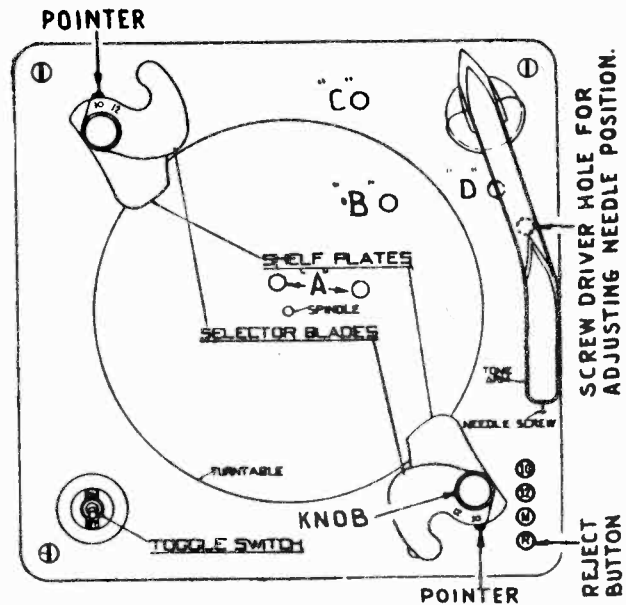

FIG. 1 SHOWS SELECTOR BLADES IN POSITION FOR 10-INCH RECORDS.
To set for record size. (1) Clasp one of the posts just underneath the shelf plate, with thumb and finger of left hand. With right hand, lift knob and turn selector plate until the figure 10 or 12 (whichever size you want to play) is opposite the pointer. Do the same with the other post. Both selector plates must be in 10 or 12 position. (2) Push button marked 10 or 12, as required (see Figure 1).
The record changer will not need lubrication more than once a year and should be lubricated with a good light machine oil such as S.A.E. 10. There are 6 locations that will need oiling. These are shown in Figure 1. These lubricating holes can be reached from the top of the mechanism and are as follows:
1. The motor gear housing contains 3 lubricating wicks. These wicks are shown at "A" in Figure 1. Two of these wicks are reached through the hole directly in back of the turntable spindle and the other wick to the right of the turntable spindle.
2. A small quantity of oil should be dropped through hole marked "B" in Figure 1. Lubricating this point distributes oil to the various moving surfaces of the mechanism.
3. A felt wick directly below the hole marked "C" in Figure 1 should also be oiled.
4. Another felt wick marked "D" in Figure 1 should also be well oiled.
Adjustment of the landing position of the needle on records is controlled by the adjusting screw located in the hole shown in Figure 1. This adjustment is made with a screw driver from the top of the mechanism and does not require the removal of the changer from the cabinet. If the needle comes down too far from the edge of the record, playing of records will not start at their beginning. In this case, turn the needle positioning adjustment screw very slightly counter-clockwise. If the needle comes down too close to the edge of the record, the pickup may slip off the record. To adjust this condition turn the adjusting screw clock-wise. If adjustment screw is too far to rear and cannot be adjusted through hole in base plate, depress "Manual" push button, and push bracket —Forward.